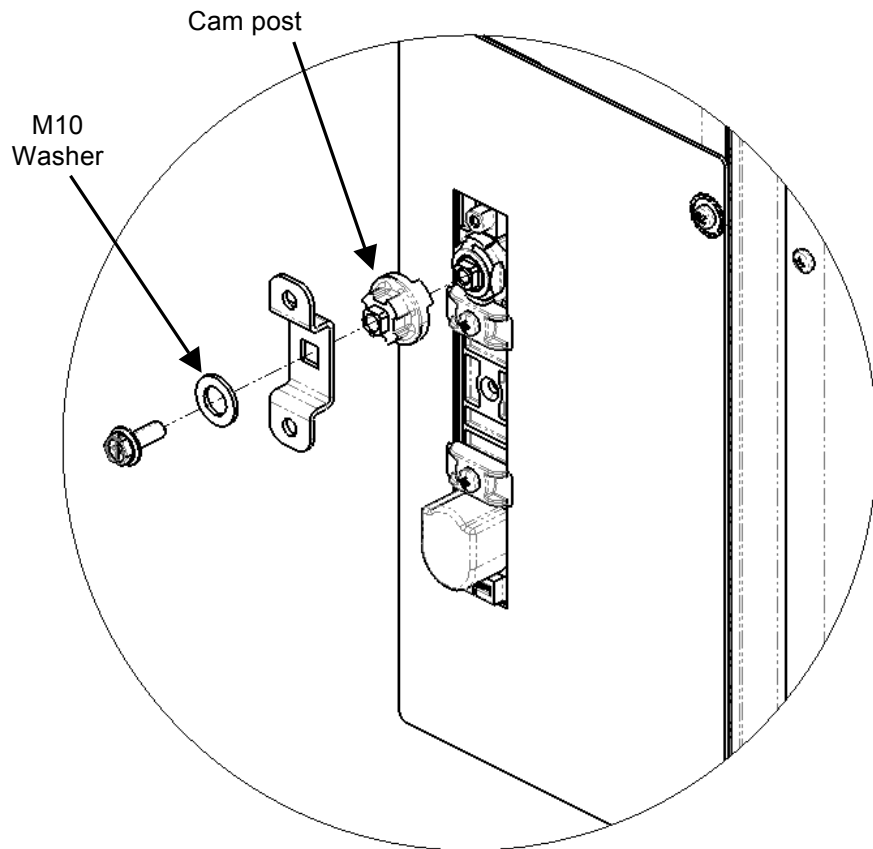

Fig. 2
6. Place the M10 washer over the cam and push the cam onto the cam post. Check swing handle operation direction (Fig. 2).